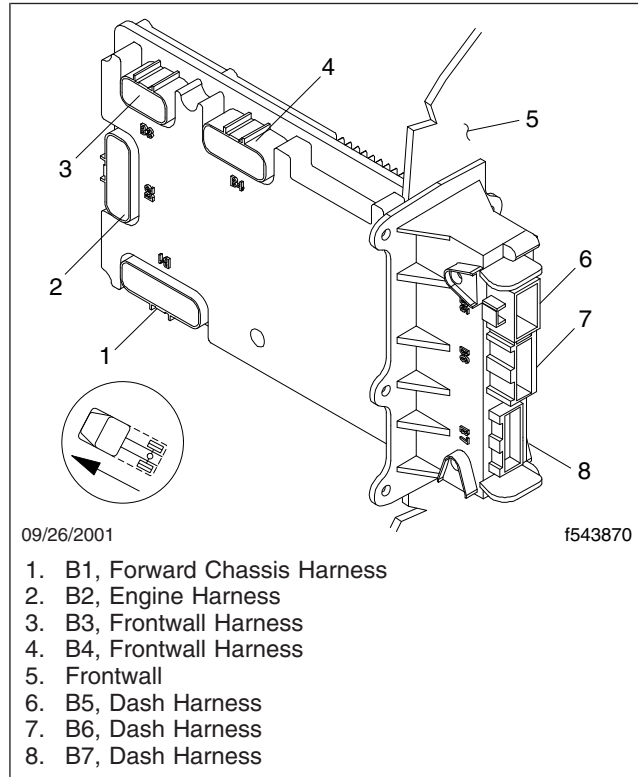

Fig. 1, Bulkhead Module Harness Connections
2. Disconnect the negative leads from the batteries. See Fig. 1.